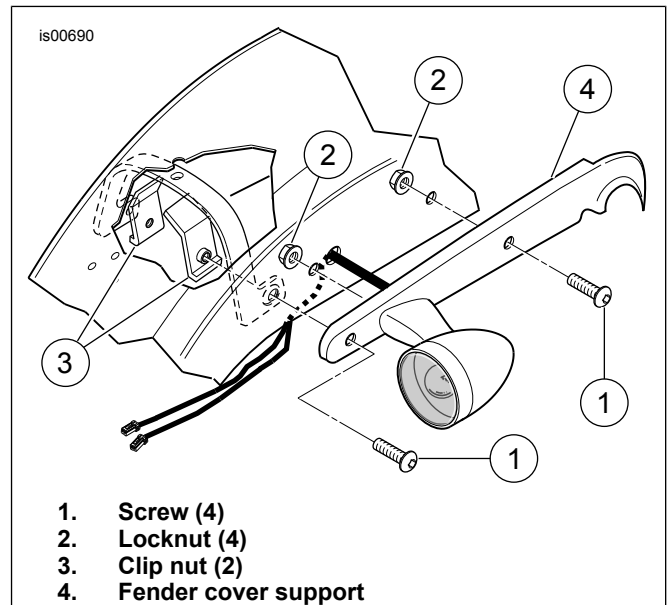

Figure 1. Rear Fender Support Removal
- See Figure 1. Remove and discard front and rear button head screws (1), two locknuts (2) and under fender clip nuts (3) from the left and right rear fender support covers (4).